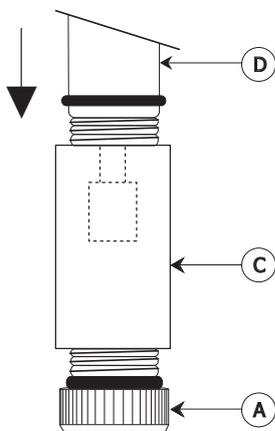

Figure 3
Screw the collar (A) containing the pad, onto the cell (C) (see Figure 3).